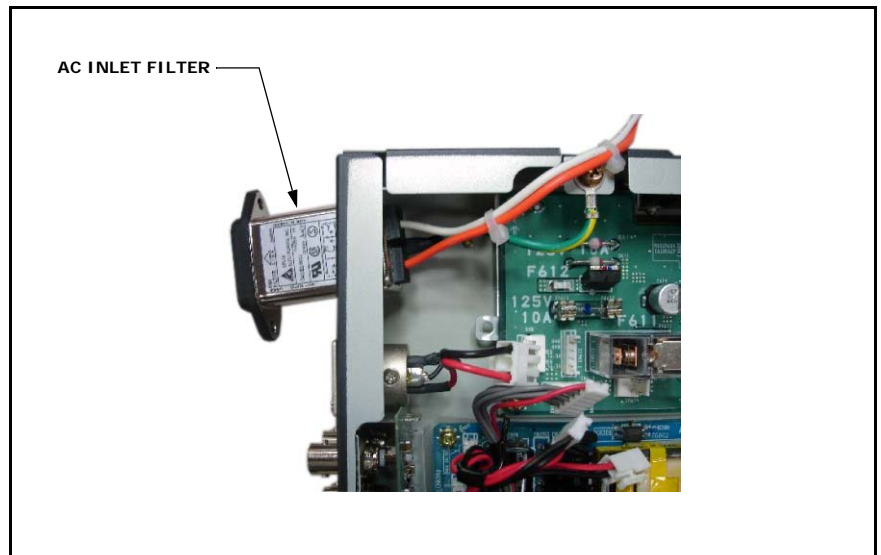

Figure 1
3. Remove all the following connectors on the G2 board, and remove the AC inlet filter. (See Figure 1.)